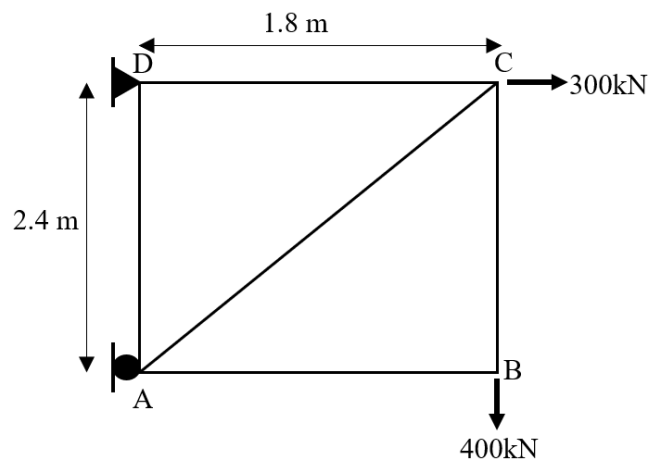

Figure A1(a)/ Rajah A1(a)
A truss is statically determinate when all its member forces can be determined using only equilibrium equations. Otherwise, it is statically indeterminate. According to statically determinate steel truss as shown in Figure A1(a) below that subjected to the vertical and horizontal external load of 400kN and 300kN at joints B and C, respectively.
- CLO2 (a) Show the internal forces in each member for Figure A1(a) of the steel truss using the method of joints.